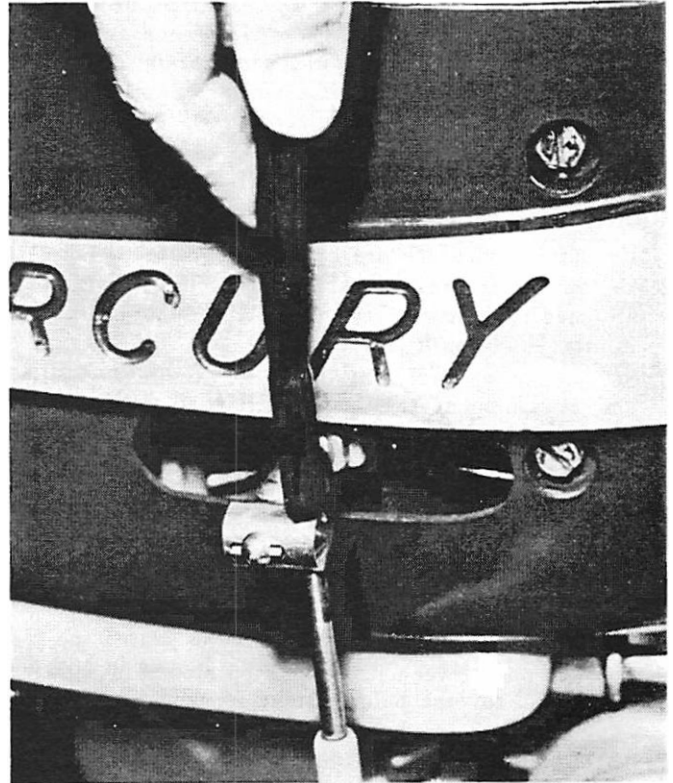

Figure 6. Throttle Cable Connection
10. Attach throttle cable to throttle vertical connector by holding cable vertical so that pin will pass thru round brass cable anchor. (Figure 6) Cable should be beneath clevis arm.